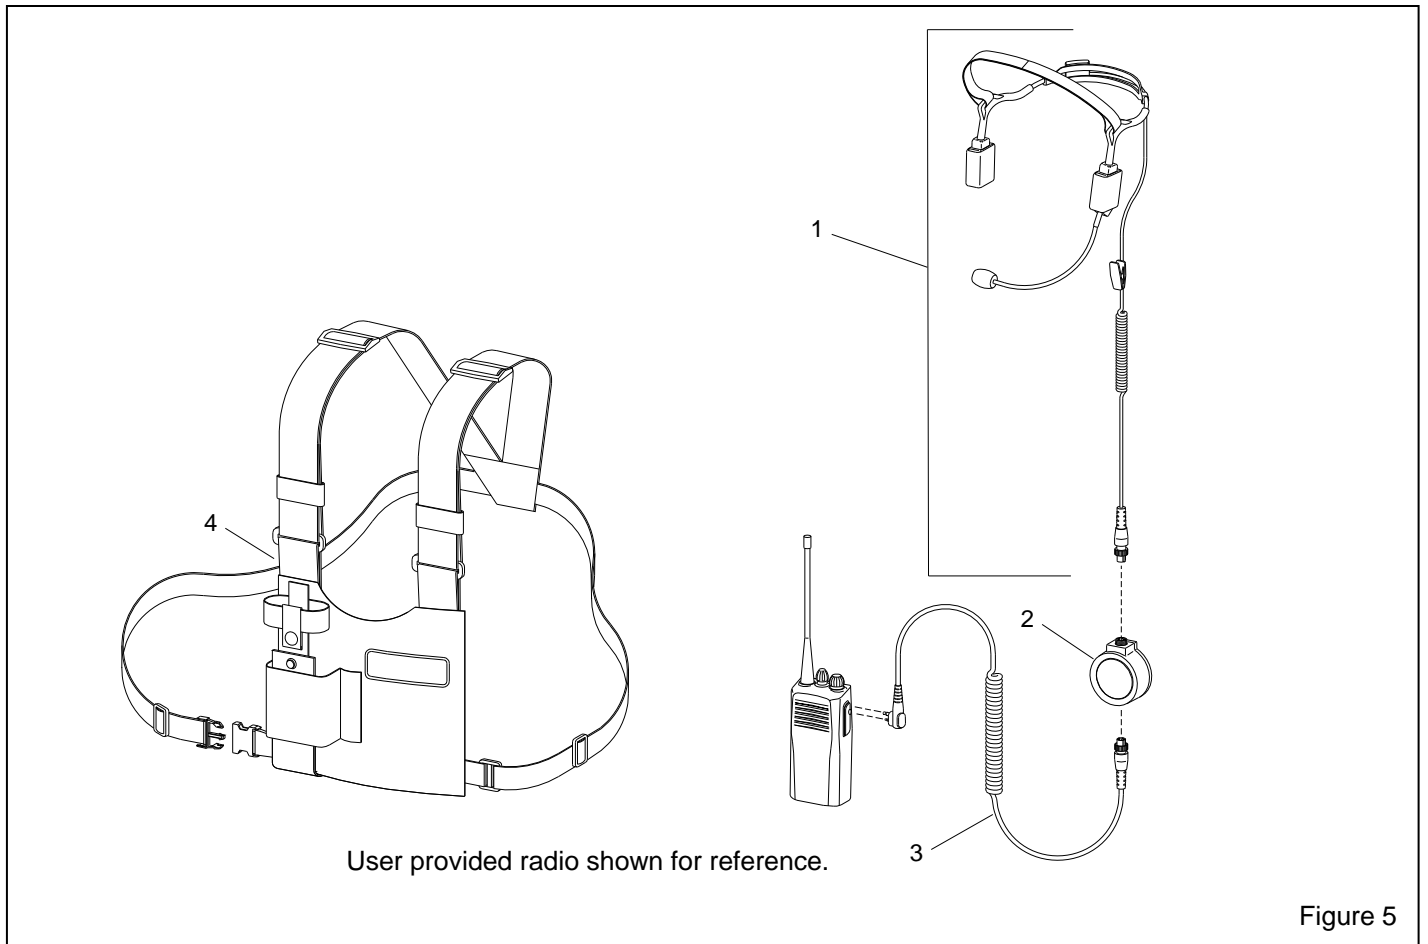

Figure 5
7.2 WiComm 2 Replacement Parts – Figure 5